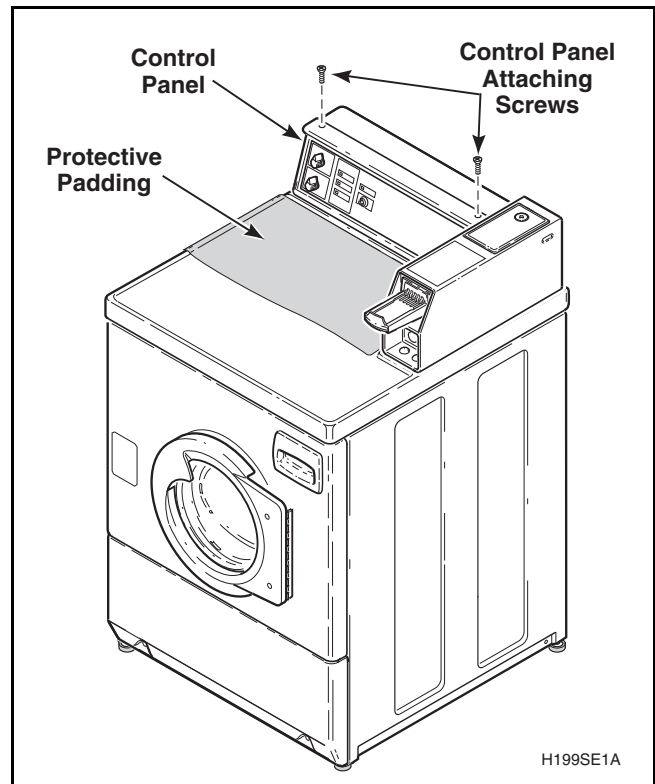
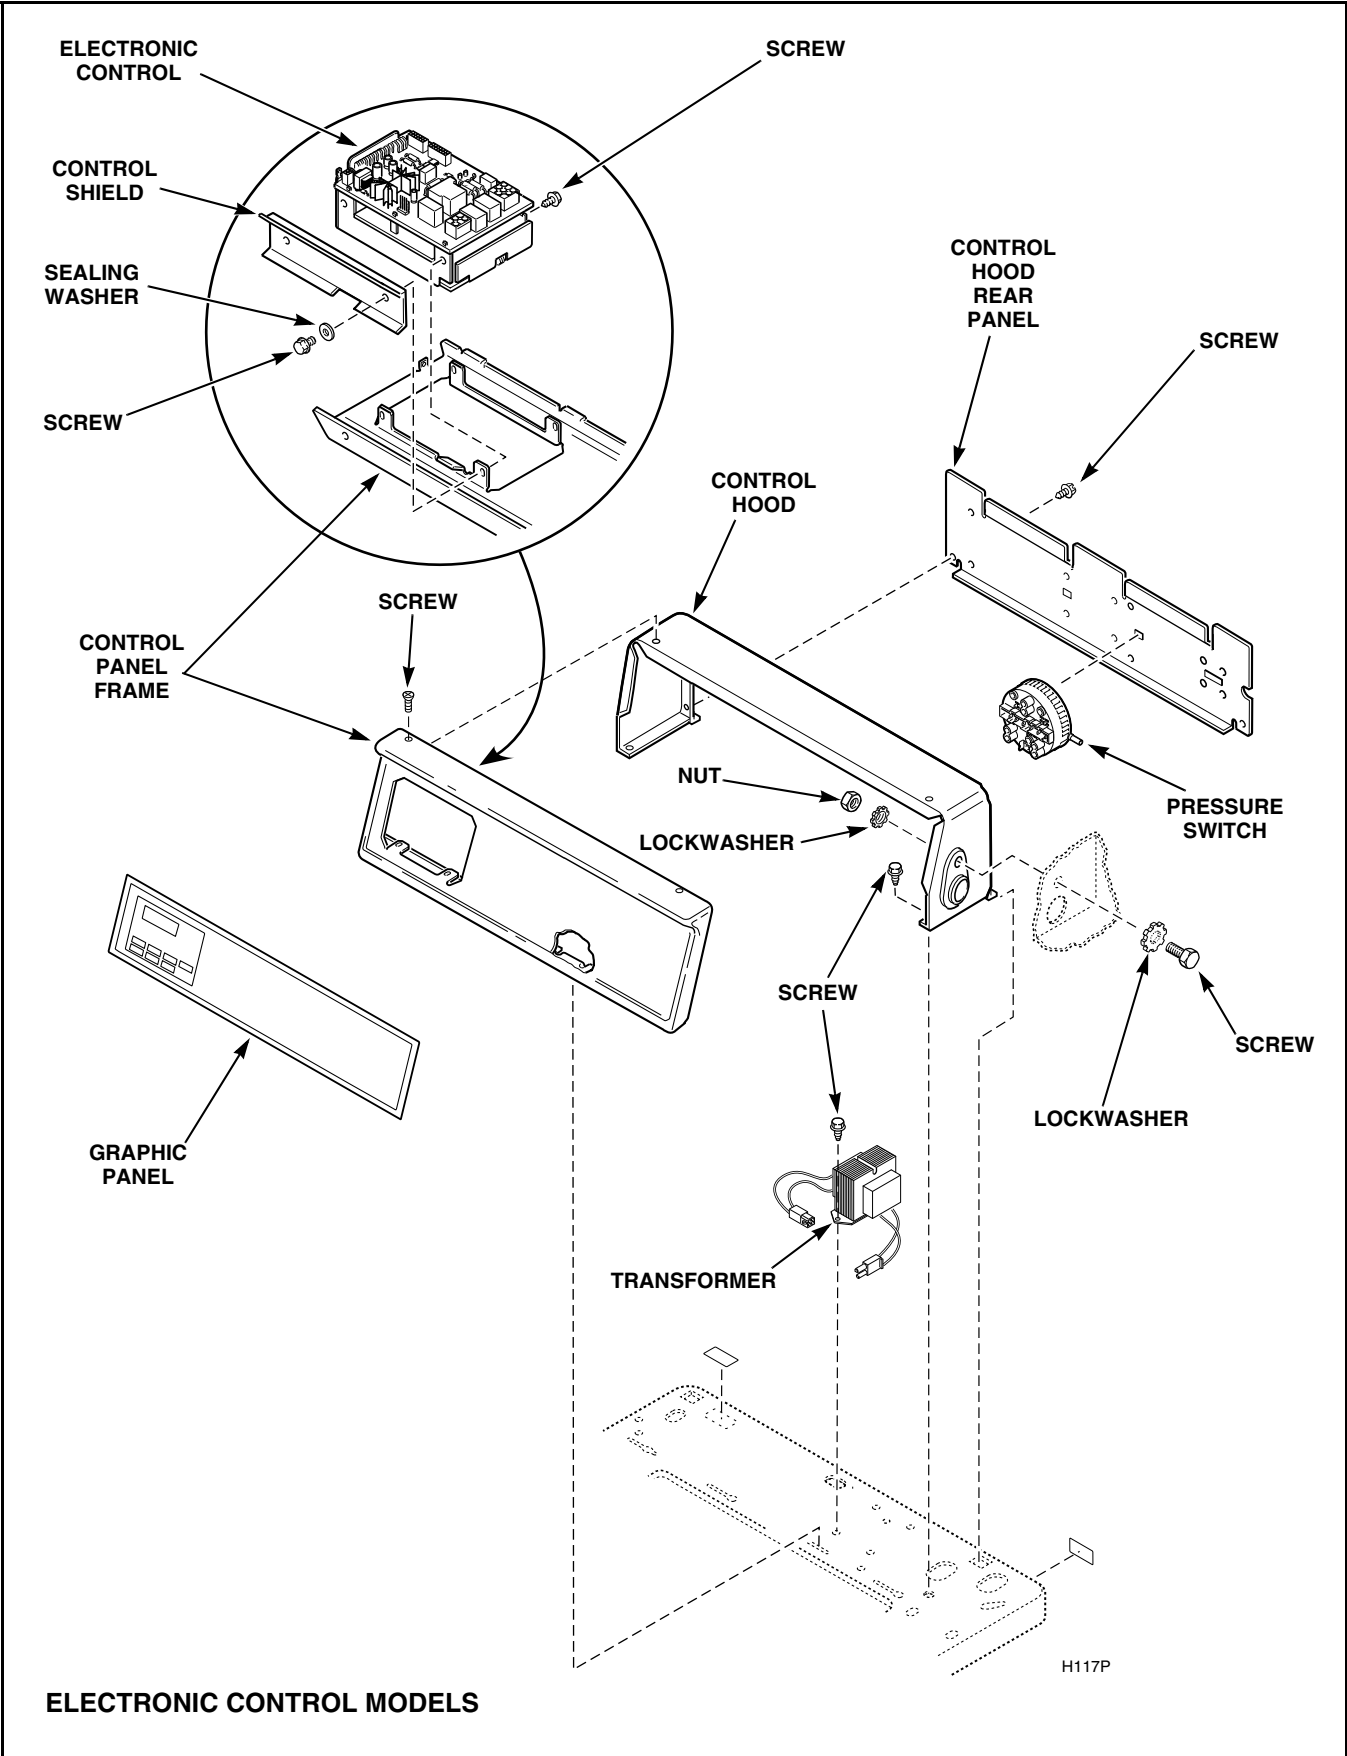

Figure 25
Figure 29
- (1) Remove two control panel attaching screws holding control panel to control hood. Refer to *Figure 25*. Lay assembly forward on protective padding on cabinet top.
- Remove two control panel attaching screws. Refer to *Figure 25*. Lay assembly forward on protective pad on cabinet top.
- (1) Remove two control panel attaching screws. Refer to *Figure 25*. Lay control panel assembly face down on protective padding.
- (2) Press in on locking tabs and unplug harness disconnect blocks from backside of electronic control assembly.
- (3) Remove four screws holding electronic control assembly to backside of control panel. Refer to *Figure 29* or *30*.
- (4) Place the old control in the anti-static wrapping that the new control was supplied in.
- (5) While holding new control by its metal edges, place control in opening of control panel and fasten control down with four screws. Refer to *Figure 29* or *30*.
**NOTE:** For proper control alignment, tighten the top two screws first then tighten the bottom screws. Refer to *Figure 29* or *30*.
- (6) Follow wiring diagram and reconnect wires to new control.
- (1) Remove two control panel attaching screws. Refer to *Figure 25*. Lay control panel on protective pad.
- (1) Remove control panel attaching screws. Refer to *Figure 25*. Lay assembly forward on protective pad on cabinet top. Refer to *Figure 25*.
- (2) Support control panel, press in on locking tabs and unplug harness disconnect blocks from backside of electronic control.
- (3) Using a hair dryer or heat gun to warm the overlay, remove control panel overlay by peeling it from the control panel frame.
- (1) Once panel overlay is fitted to the front of control panel frame, carefully peel protective backing from the left end of panel overlay and press into place.
- (2) Remove rest of protective backing from panel overlay and press overlay into place on control panel assembly.
- (3) While holding control by its metal edges, place control in opening of control panel and fasten control down with four screws. Refer to *Figure 29*.
**NOTE:** For proper control alignment, tighten the top two screws first then tighten the bottom screws. Refer to *Figure 29*.
- (4) Follow wiring diagram and reconnect wires to control.
- (5) Reinstall control panel.